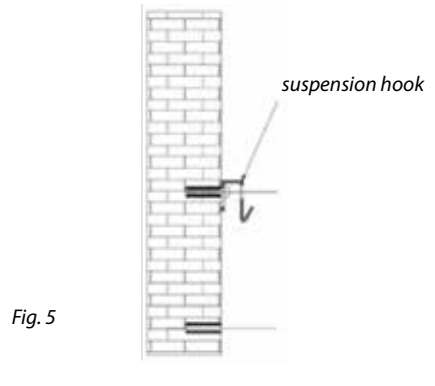

Fig. 5
6. Put suspension hooks on the screw heads and firmly tighten the screws (Fig. 5).